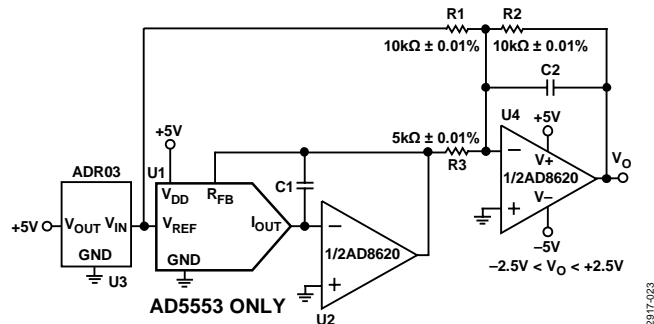

Figure 23. 4-Quadrant Multiplying Application Circuit
In some applications, it may be necessary to generate the full 4-quadrant multiplying capability or a bipolar output swing, which is easily accomplished by using an additional U4 external amplifier configured as a summing amplifier (see Figure 23). In this circuit, the second amplifier, U4, provides a gain of 2 that increases the output span magnitude to 5 V. Biasing the external amplifier with a 2.5 V offset from the reference voltage results in a full 4-quadrant multiplying circuit. The transfer equation of this circuit shows that both negative and positive output voltages are created as the input data (D) is incremented from code zero ( $V_{OUT} = -2.5$  V) to midscale ( $V_{OUT} = 0$  V) to full-scale ( $V_{OUT} = +2.5$  V).